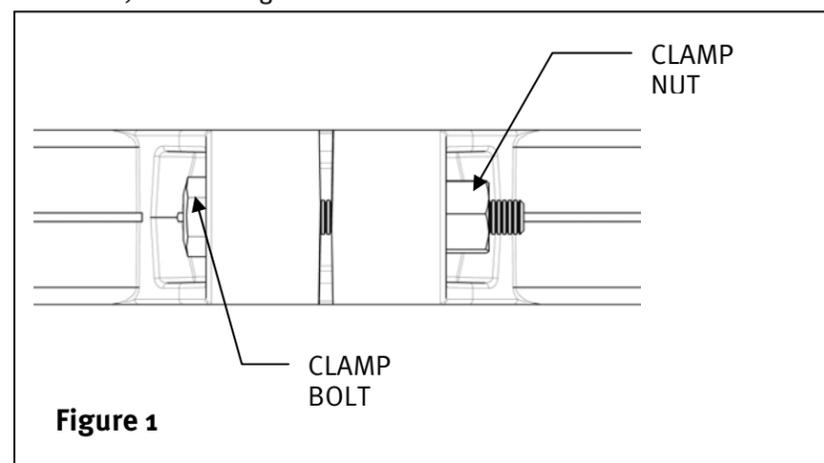
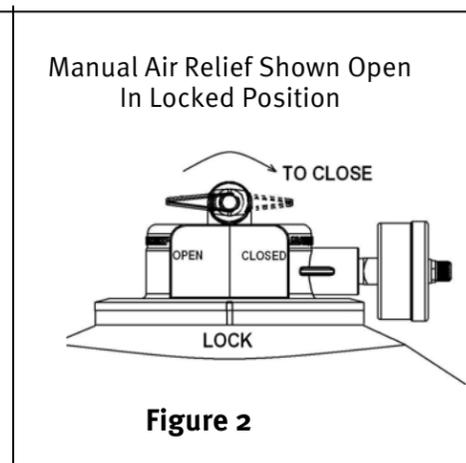

Figure 1
Figure 2
1. Use ONLY Hayward clamp system components; DEX2421JKIT clamp system, DEX2421J2 nut/bolt assembly, DEX2422Z2 metal reinforced seal. Non-Hayward clamp components may fail in use and cause explosive component separation. Verify that upper and lower filter bodies are properly secured with the filter body clamp. Never rely on hand tightening the clamp nut to the clamp bolt. Using a 3/4" socket on a torque wrench, torque clamp nut to clamp bolt to 150 inch-lbs. (See Fig 1) Verify that the filter manual air relief body is in the LOCK position, and no filter components are missing, damaged or not genuine Hayward components. (See Fig 2)
4. Place the manual air relief valve in OPEN position. (See Fig 2)